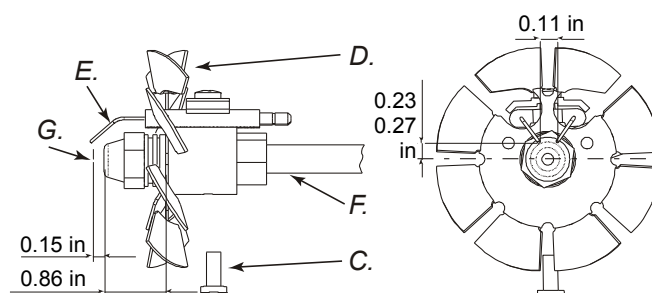

Figure 17 - Specifications for electrode assembly on the nozzle holder tube.
6. Reposition the electrode-flame disc unit according to the distances represented in Fig. 17 section 4.
8. Reposition the electrode-flame disc unit according to the distances represented in Fig. 17 section 4.